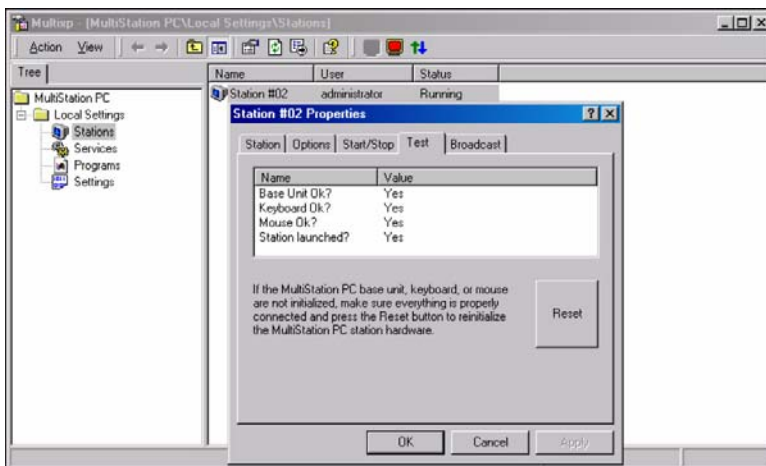

Figure 13. Test screen
The “Test” tab (Figure 13) verifies that the base unit, keyboard, and mouse are initialized and the station’s launch status. If any item is not initialized on start-up, the value for that item will be “No”. Check the item whose value is “No” and click on the “Reset” button. This will reinitialize the user module, keyboard, and mouse. The value should change from “No” to “Yes” for that item.
- Cable is loose; re-seat keyboard or mouse cable at the CPU and the remote user module and reset the keyboard and mouse (Refer to Figure 13)